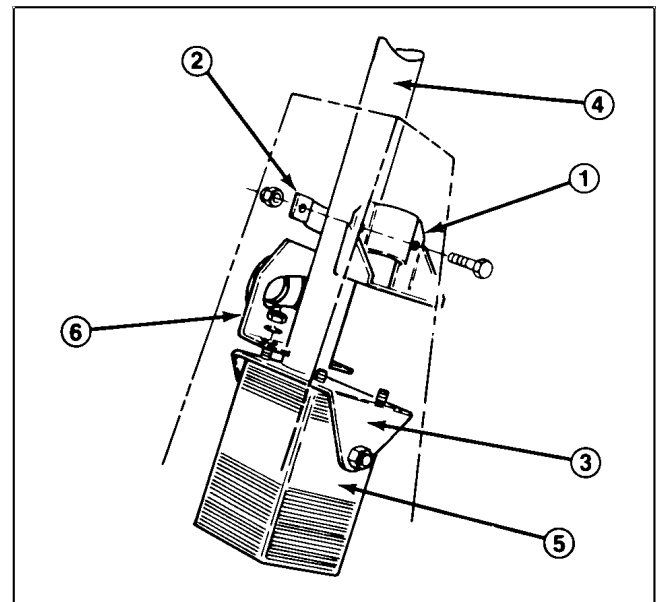

Figure 23B
6. Remove two (2) capscrews to remove clamp half securing steering column to column support (Fig. 23B).
7. Remove four (4) locknuts and flat washers securing steering valve to mounting bracket.